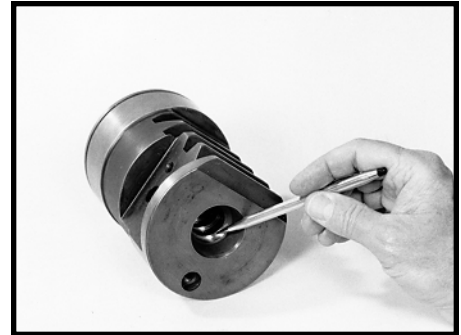

Figure 85
2. Inspect the rack piston internal ball-track grooves for brinelling (dents) or spalling (flaking) SEE FIGURE 85. If either condition exists, you must replace the following parts: the rack piston (31), the worm shaft/input shaft (17), the valve sleeve (15), and set of 27 balls (42)